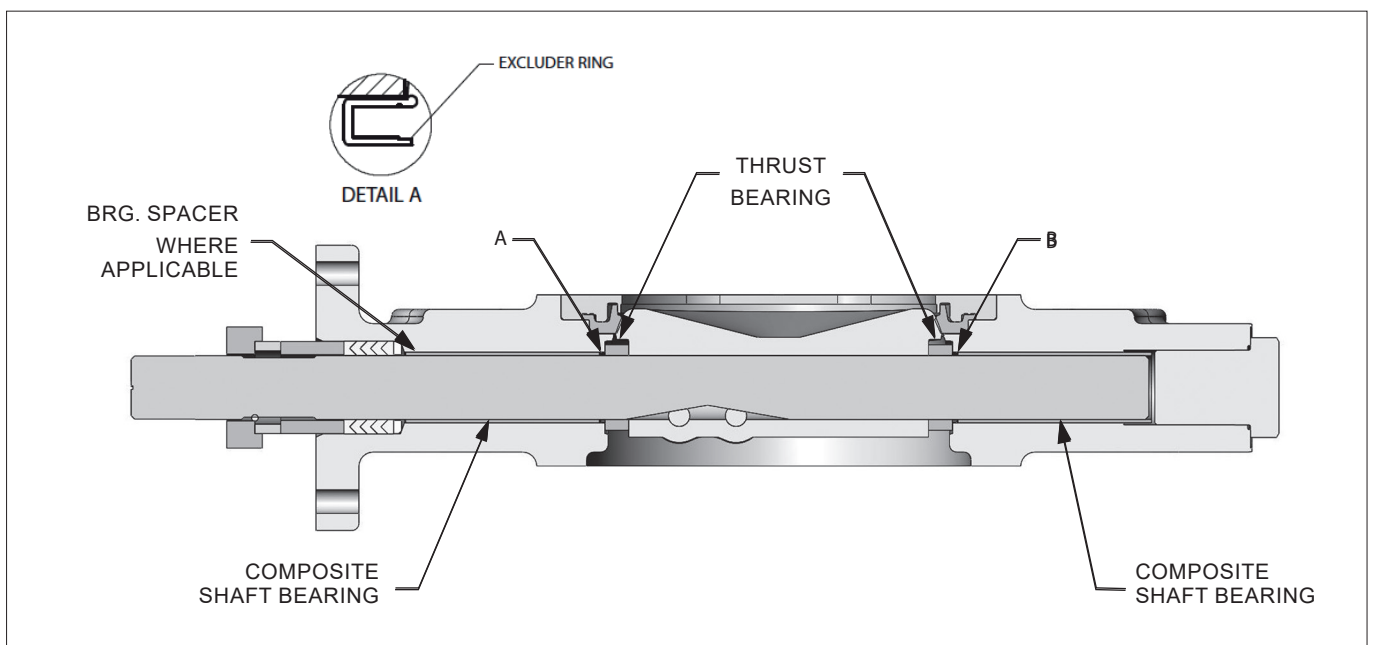

Figure 12.
8. If the disc (3) is slightly damaged, it may be possible to smooth the sealing surface with crocus cloth, a fine stone, or the equivalent. If deep scratches are present, replace the disc or return the valve to the local Valmet center.
10. A gasket is required between the seat tail and body as shown in (Figure 12). The valve uses a graphite type gasket (except 14" [DN 350] which uses PTFE paste sealant). This is installed in accordance with the following steps: